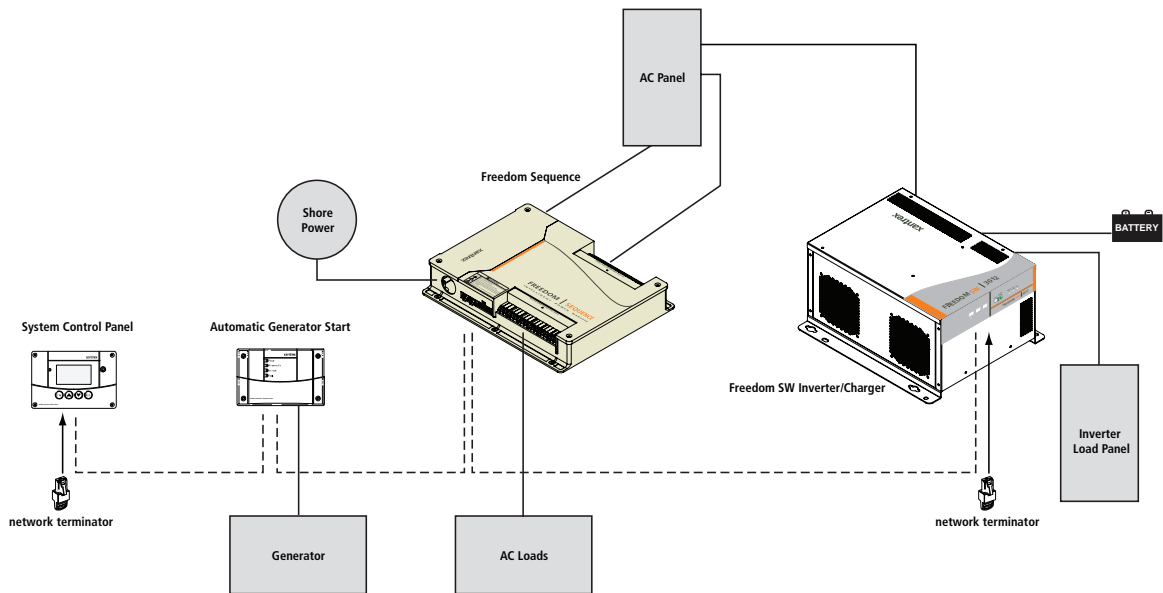

Figure 3 Sample Network Diagram
In Figure 3, network connections are represented by dotted lines and conventional electrical connections are represented by solid lines.
4. Ensure that male network terminators are inserted into the empty inputs in the Xanbus-enabled devices at the beginning and end of the network. When the network is completely connected, there should be no empty network inputs in any Xanbus-enabled device. See Figure 3 on page 6.
IMPORTANT: To ensure communication signal quality, the network must be terminated at each end with a terminator. See Figure 3 on page 6.